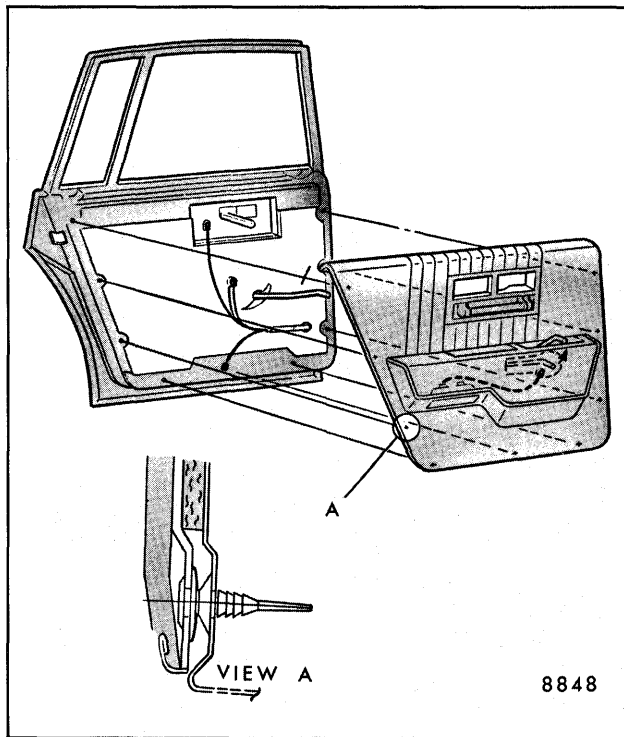

Fig. 5-6-Typical Door Trim Pad Installation
2. Using tool J-24595 or BT-7323 or equivalent, disengage door trim pad to door inner panel nylon fasteners (Fig. 5-6).
3. Align trim fasteners with corresponding attaching holes in door inner panel (Fig. 5-6).